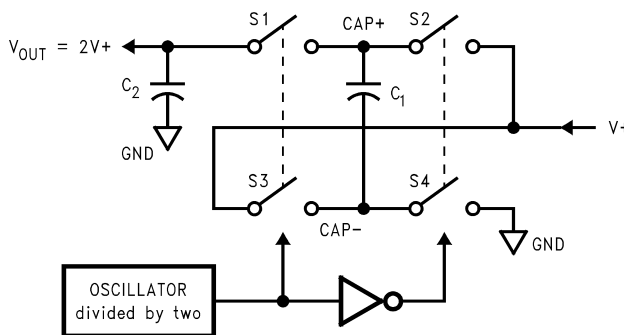

图 9-2. Voltage Doubling Principle
The LM2767 contains four large CMOS switches which are switched in a sequence to double the input supply voltage. Energy transfer and storage are provided by external capacitors. 图 9-2 illustrates the voltage conversion scheme. When S_2 and S_4 are closed, C_1 charges to the supply voltage V_+ . During this time interval, switches S_1 and S_3 are open. In the next time interval, S_2 and S_4 are open; at the same time, S_1 and S_3 are closed, the sum of the input voltage V_+ and the voltage across C_1 gives the $2V_+$ output voltage when there is no load. The output voltage drop when a load is added is determined by the parasitic resistance ($R_{ds(on)}$ of the MOSFET switches and the ESR of the capacitors) and the charge transfer loss between capacitors. Details are discussed in 节 9.
- R_{SW} is the sum of the ON resistance of the internal MOSFET switches shown in 图 9-2.